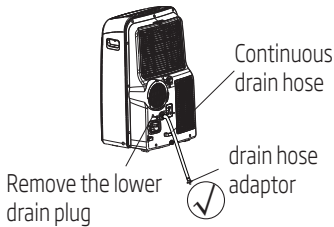

Fig. 20b
- During heating pump mode, remove the lower drain plug from the back of the unit, install the drain connector (5/8 universal female mender) with 3/4 hose (locally purchased). For the models without drain connector, just attach the drain hose to the hole. Place the open end of the hose adaptor directly over the drain area in your basement floor. Please refer to Fig. 20b.